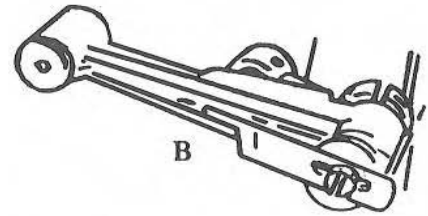

Figure 5
4. Replacing under knife. Figure 5